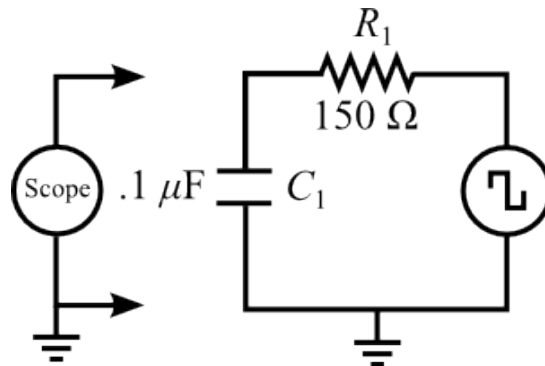

Figure 7
- 1 Connect the circuit as shown in Figure 7.
- 10 Calculate the experimental value of the capacitor (C) in the circuit using the formula $\tau = RC$, where R is the TOTAL resistance in the circuit. Call it (experimental) C_1 . Do not forget the units.